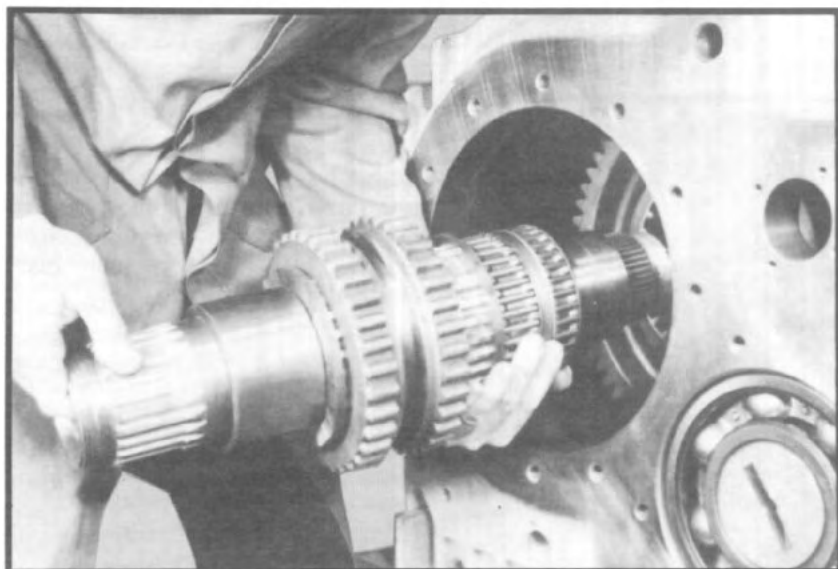

Fig. 142
- 3.6 Install lower shaft assembly into housing through rear bore. (See fig. 142.) Insert shaft assembly into underdrive gear. As shaft assembly enters the front bore, place the thrust washer over front of shaft and against underdrive gear. Place flat side of washer against the gear.